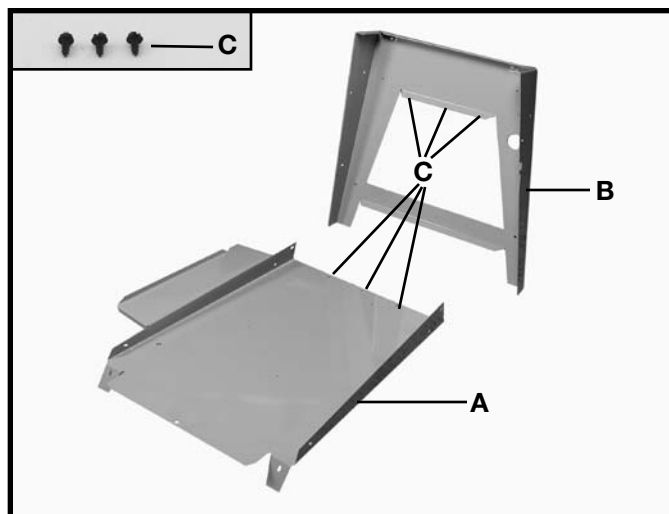

Fig. 5
1. Assemble the dust chute and support panel (A) Fig. 5, to the inside of the front stand panel (B) with three #10 x 1/2" sheet metal screws (C).